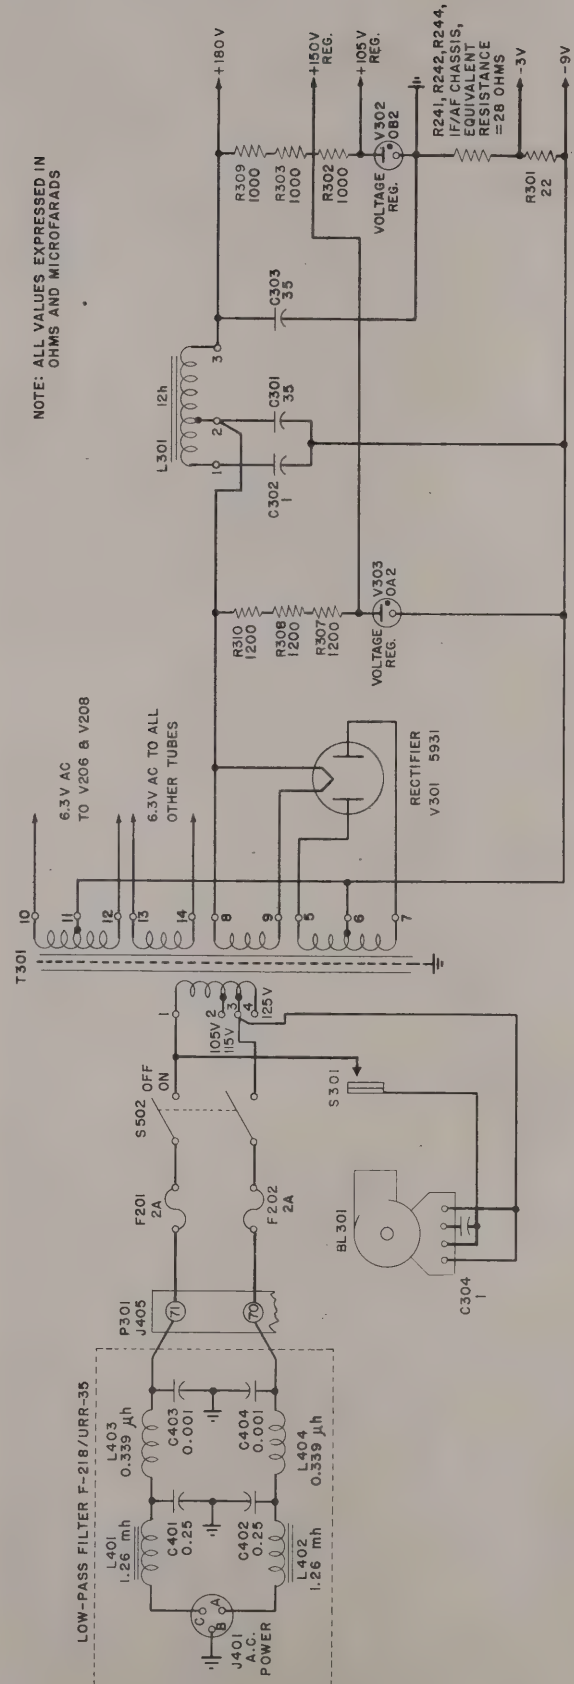

Figure 2-11. Power Supply, Simplified Schematic Diagram
i. POWER SUPPLY.—A single power transformer, T301, supplies heater or filament power for all tubes and, after rectification, high d-c voltages for plates and screens, as well as small negative voltages used for bias. See the simplified schematic diagram, figure 2-11.